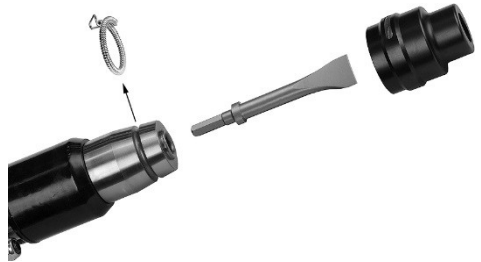

Figure 2 (chisel not provided)
1. Install chisel (not provided) as follows. See Figure 2.